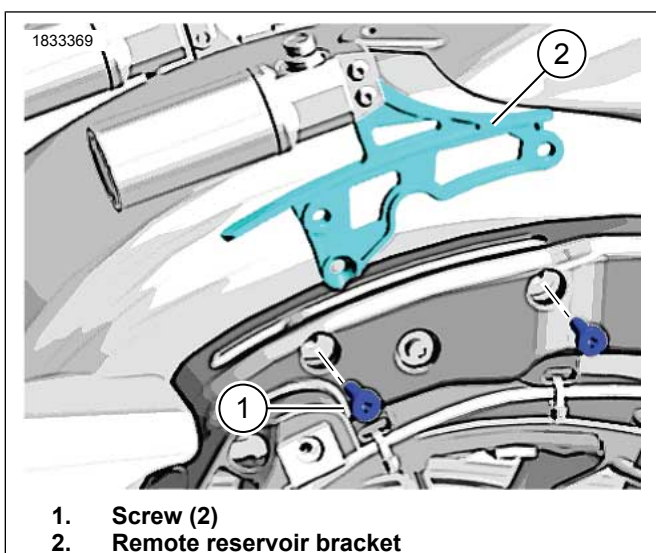

Figure 2. Remove Remote Reservoir Bracket
1. See Figure 2. Remove screws (1). Discard.
2. Remove Original Equipment (OE) remote reservoir bracket (2).